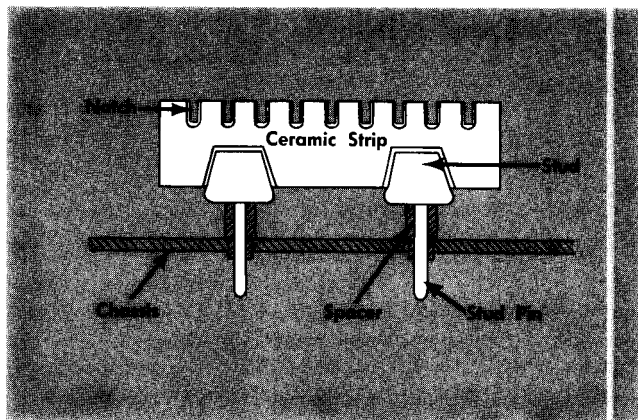

Fig. 5-7. Ceramic terminal strip assembly.
**Ceramic Terminal Strip Replacement** A complete ceramic terminal strip assembly is shown in Fig. 5-7. Replacement strips (including studs) and spacers are supplied under separate part numbers. However, the old spacers may be reused if they are not damaged. The applicable Tektronix Part Numbers for the ceramic strips and spacers used in this instrument are given in the Mechanical Parts List.